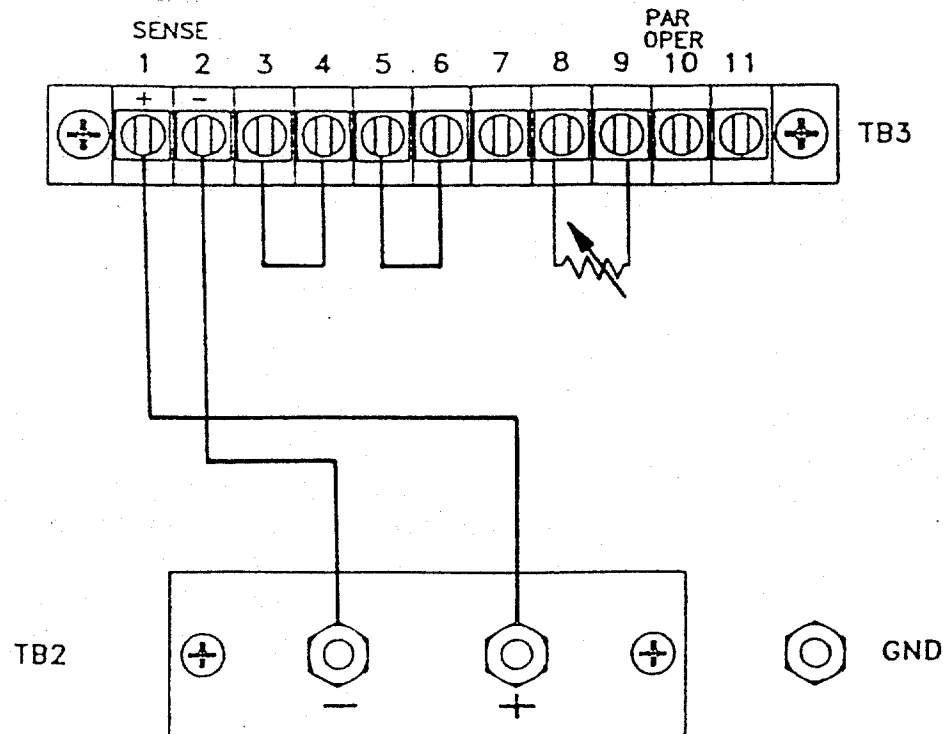

Figure 3-6 Resistance Programming Current Mode Connections
3.3.1 Resistance Programming Current Mode (Figure 3-6)